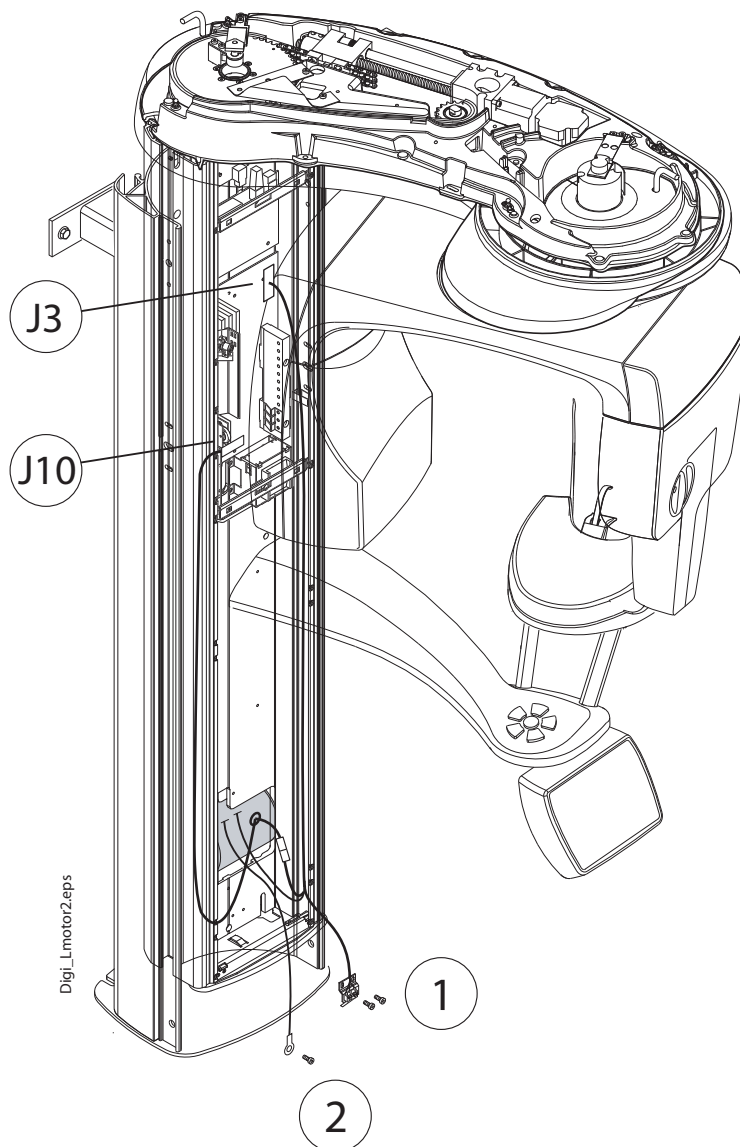

Figure 32
- 15) Unscrew the two M4x6 DIN 7984 attachment screws of the emergency stop microswitch and detach the microswitch (Fig. 32, 1). Detach the column motor earthing cable (Fig. 32, 2).